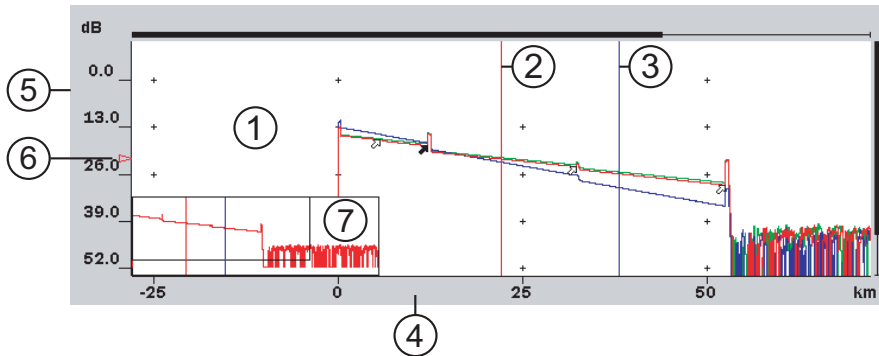

Figure 6-23: Trace Graph – OTDR (Construction) Mode
The Trace Waveform (or Trace) is the downward sloping line going from left to right that connects the data points collected during a test. See item 1 in Figure 6-23.
The cursors (see items 2 and 3 in Figure 6-23 on page 6-56) are the two vertical lines that extend from the top to the bottom of the trace graph. The cursors allow you to extract power and distance information from the trace graph. The active cursor is displayed in red and the inactive cursor is displayed in blue.
The vertical axis scale (see item 5 in Figure 6-23 on page 6-56) is located on the left side of the trace graph and is expressed in dBs, while the horizontal axis scale (see item 4 in Figure 6-23 on page 6-56) is located at the bottom of the trace graph and is expressed in the distance unit as set on the Preferences screen. See “Distance Display Units” on page 6-3 for details.
The dB level indicator (see item 6 in Figure 6-23 on page 6-56) denotes the intersection of the active cursor and the trace level.
The Trace Overview window (see item 7 in Figure 6-23 on page 6-56), located in the lower left corner of the Trace graph, shows a thumbnail view of the current trace. This is helpful in determining the location of an expanded section on the main view. The black rectangle inside the Trace Overview window indicates the section of the trace that is currently displayed in the Trace graph when the trace has been expanded horizontally, vertically.